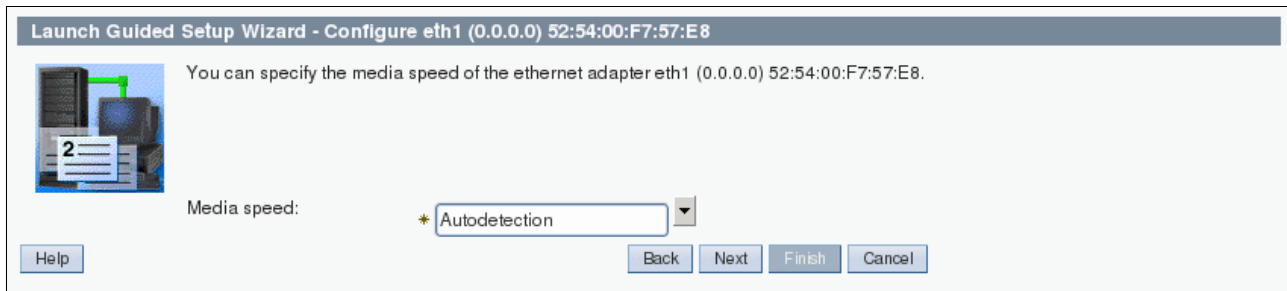

Figure 3-92 Select Auto detection for eth1
21. Select **Autodetection** for eth1 (Figure 3-92) and click **Next**.